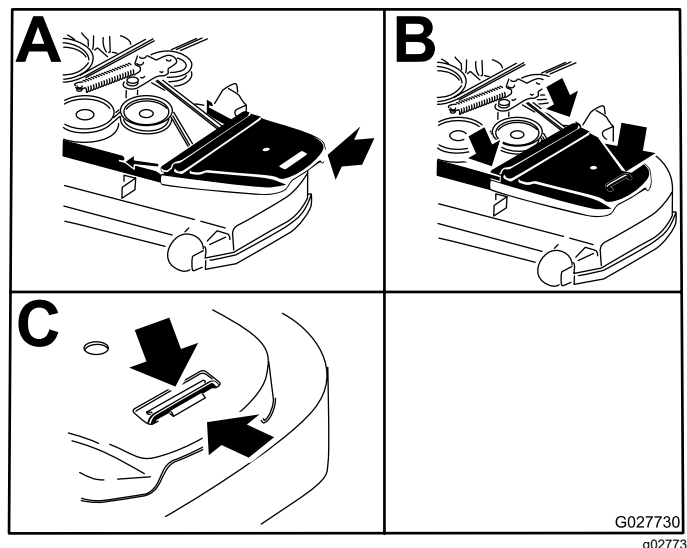

Figure 68
12. Install the belt covers (Figure 68).